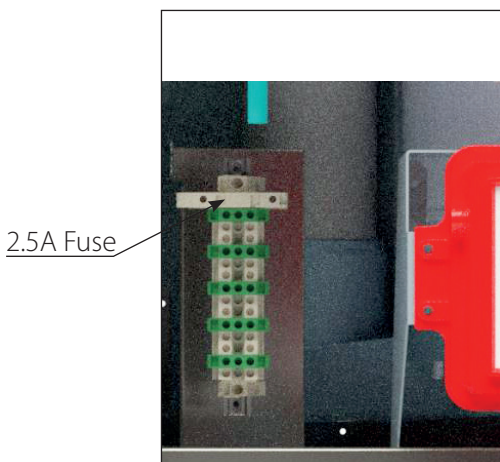

Fig. 32 - Terminal Strip Location
- A 2.5A fuse is also located on the terminal strip, to protect the output. Refer to *Fig. 32 on page 48*.
1. Connect a dedicated 120 VAC/15A service to the line voltage terminals located internally in the lower left corner, as shown in Fig. 32 below.
2. Connect the CH circulator wiring to the line voltage terminals located internally in the lower left corner, as shown in Fig. 32 on the left. This circulator is typically used to supply heat to the central/space heating loop.
3. Connect the DHW circulator wiring to the line voltage terminals located internally in the lower left corner, as shown in Fig. 32 on the left. This circulator is typically used to supply heat to an indirect hot water heater.
4. Connect the system pump wiring to the line voltage terminals located internally in the lower left corner, as shown in Fig. 32 on the left.